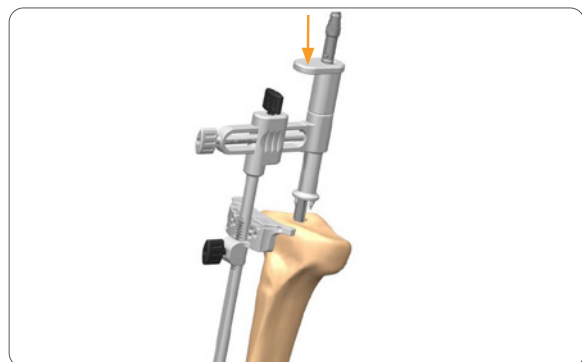

Figure 106
2. Slowly insert the Intramedullary Rod of the IM assembly into the tibial Canal (**Figure 106**).
4. Impact the top of the IM Alignment Jig to secure assembly to the proximal tibia (**Figure 106**).